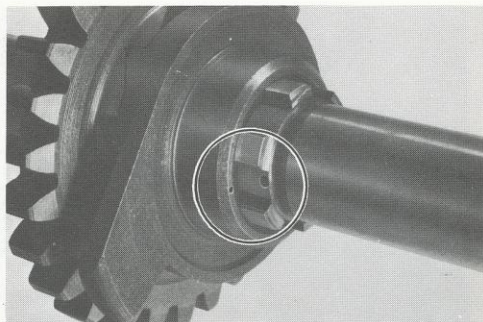

Fig. 83. Punched marks on starter and shaft
**NOTE:** The starter has a punch mark; the shaft too has a punch mark. When fitting the starter to the shaft, be sure to match the two marks as shown in Fig. 83.